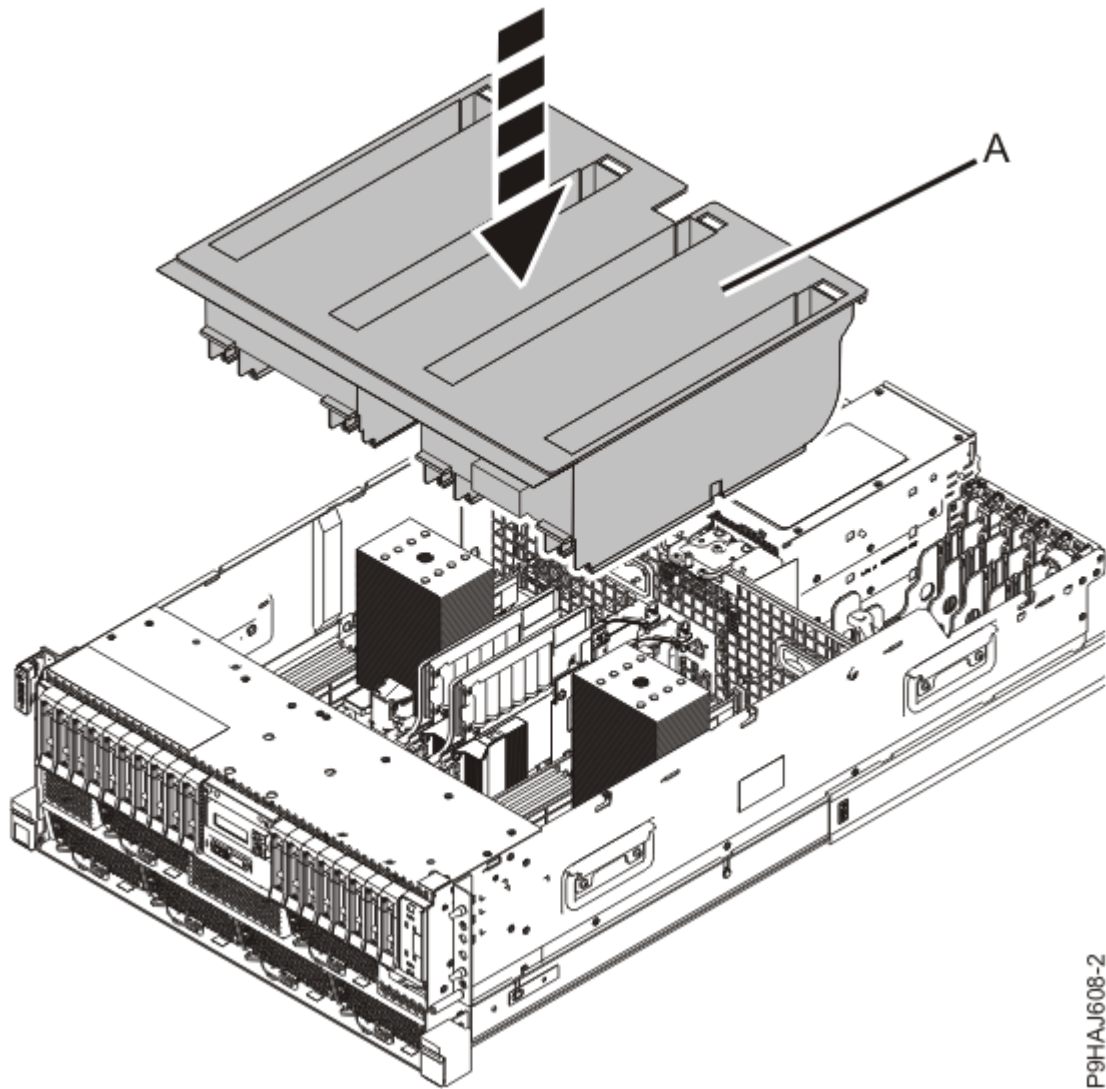

*Figure 16. Connecting the internal RDX docking station power and USB cables*
12. Connect the internal RDX docking station USB cable (**B**) to the rear of the new internal RDX docking station. Proceed to connect the internal RDX docking station power cable (**A**) to the rear of the new internal RDX docking station as shown in Figure 16 on page 20.